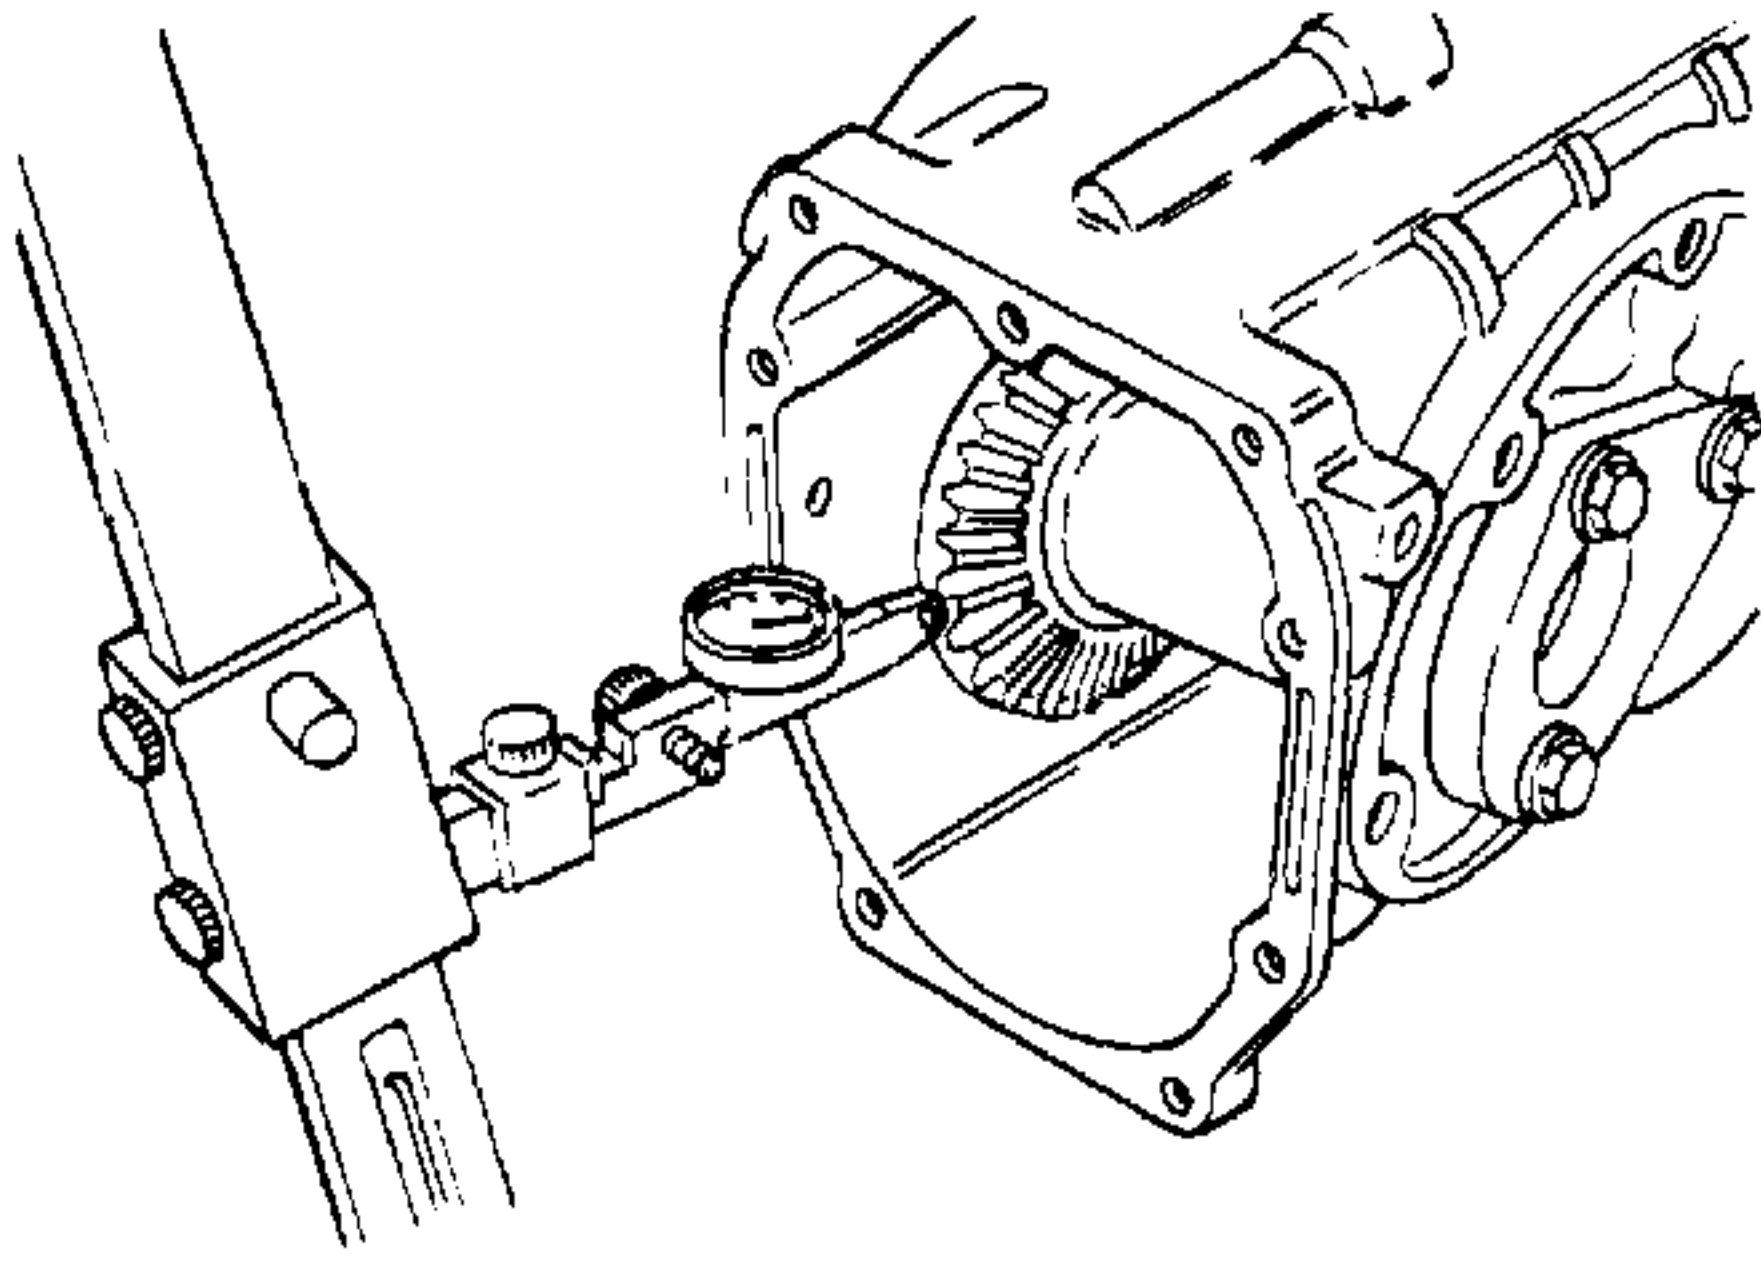

Figure 5-78C. Measuring Ring Gear to Pinion Backlash.
- b. Ring gear to pinion backlash – .003 to .008 inch. Refer to Figure 5-78C.